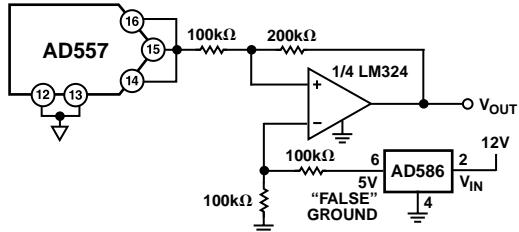
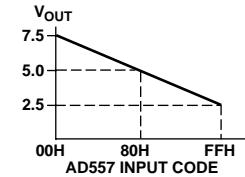

Figure 5. Level Shifting the AD557 Output Around a "False" Ground
Figure 6. AD557 Input Code vs. Level Shifted Output in a "False" Ground Configuration
Figure 5 shows an easy and inexpensive way to implement this. The AD556 is used to provide a stable 5 V reference from the system's 12 V supply. The op amp shown likewise operates from a single (12 V) supply available in the system. The resulting output at the V_{OUT} node is ± 2.5 V around the "false" ground point of 5 V. AD557 input code vs. V_{OUT} is shown in Figure 6.
The AD557 has data input latches that simplify interface to 8- and 16-bit data buses. These latches are controlled by Chip Enable (CE) and Chip Select (CS) inputs. CE and CS are internally "NORed" so that the latches transmit input data to the DAC section when both CE and CS are at Logic "0." If the application does not involve a data bus, a "00" condition allows for direct operation of the DAC. When either CE or CS go to Logic "1," the input data is latched into the registers and held until both CE and CS return to "0." (Unused CE or CS inputs should be tied to ground.) The truth table is given in Table I. The logic function is also shown in Figure 6.